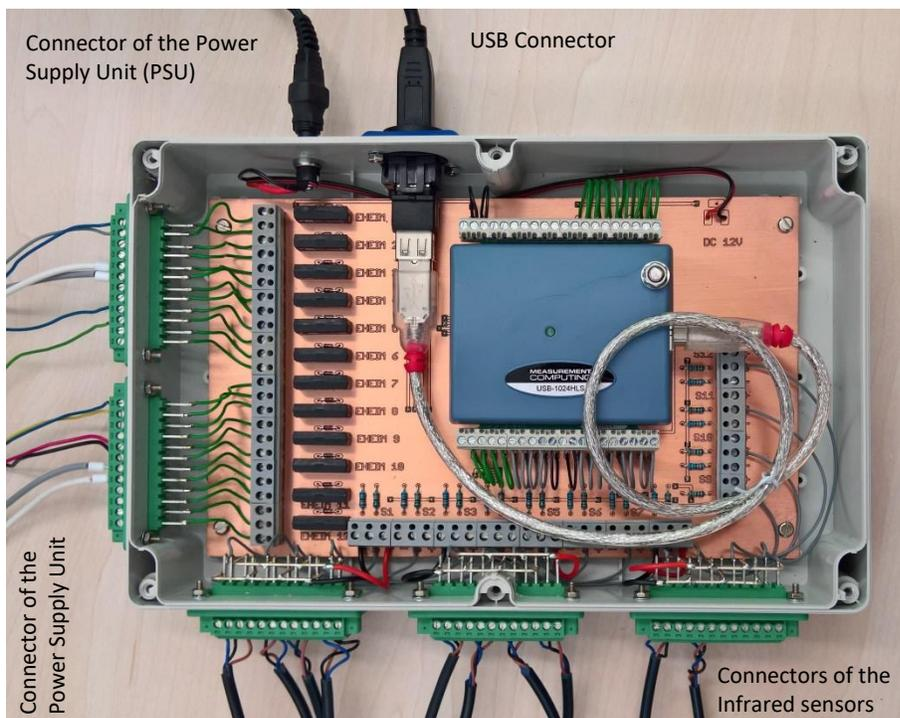

Figure 3: opened Housing connected with PCB, PSU and USB
4. Connect the PCB with wires to connectors inside an enclosure (Fig. 3) to protect it from water.